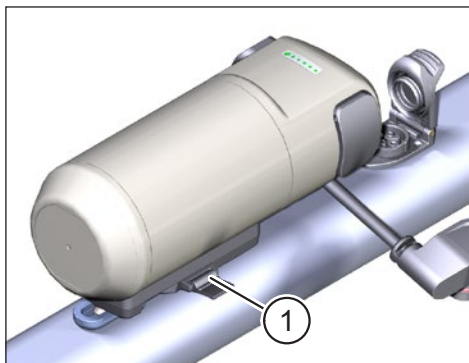

Fig. 6: FIDLOCK® system locked
- Push the locking tab in as far as it will go (see Pos. 1 in Fig. 6), to fix the Range Extender firmly in place.